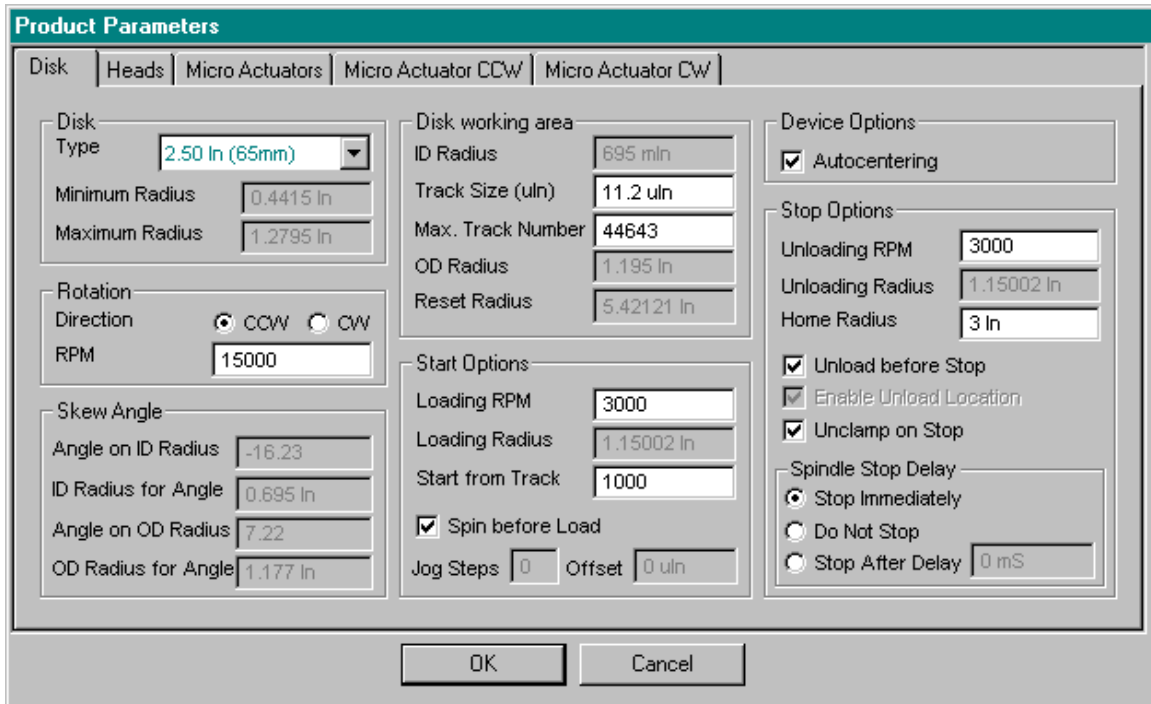

Figure 19: *Product Parameters* Dialog Box for V2002 Head Stack
2. The *Disk Product Parameters* frame in the *Spinstand Product Parameters* dialog box has a new layout (see Figure 19). All controls in this frame are the same as they were in the WITE32 version 3.11.
The *Product Parameters* dialog box displays the same control items for both a V2002 head stack tooling and a standard HLM-V2002. However, some text boxes, content of which you can edit in case of the HLM-V2002, are the read-only text boxes in the *Product Parameters* dialog box of the head stack tooling (see Figure 19). These read-only text boxes show the parameters, which are programmed at Guzik Technical Enterprises, stored in the EEPROM on the head stack tooling, and cannot be altered by the user.